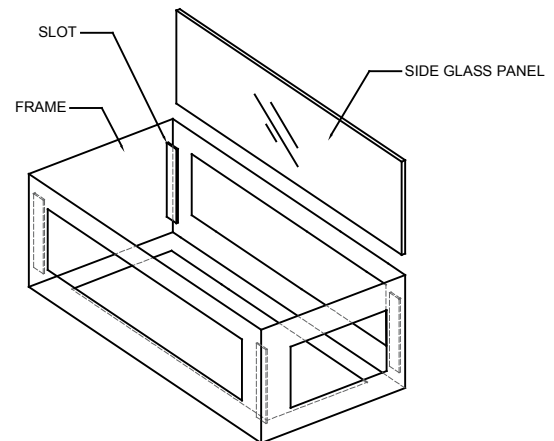

FIGURE-04
7. Carefully slide the Side Glass Panel unto the slots of frame. (See Figure-04)